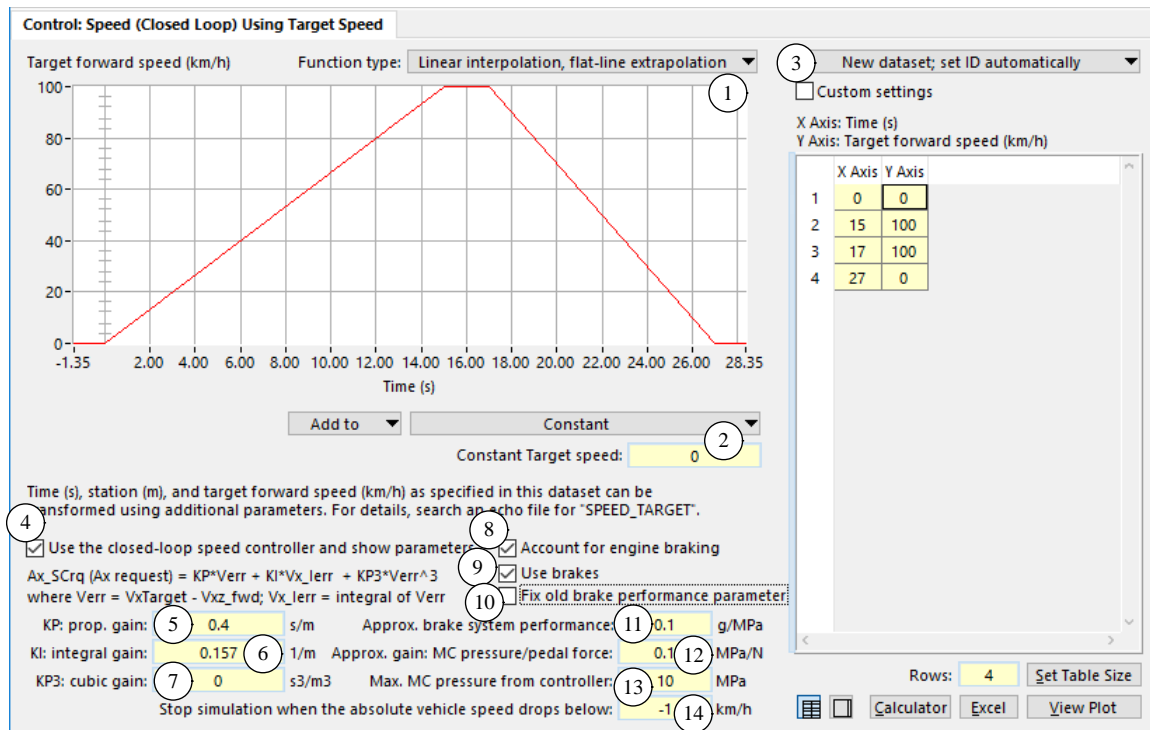
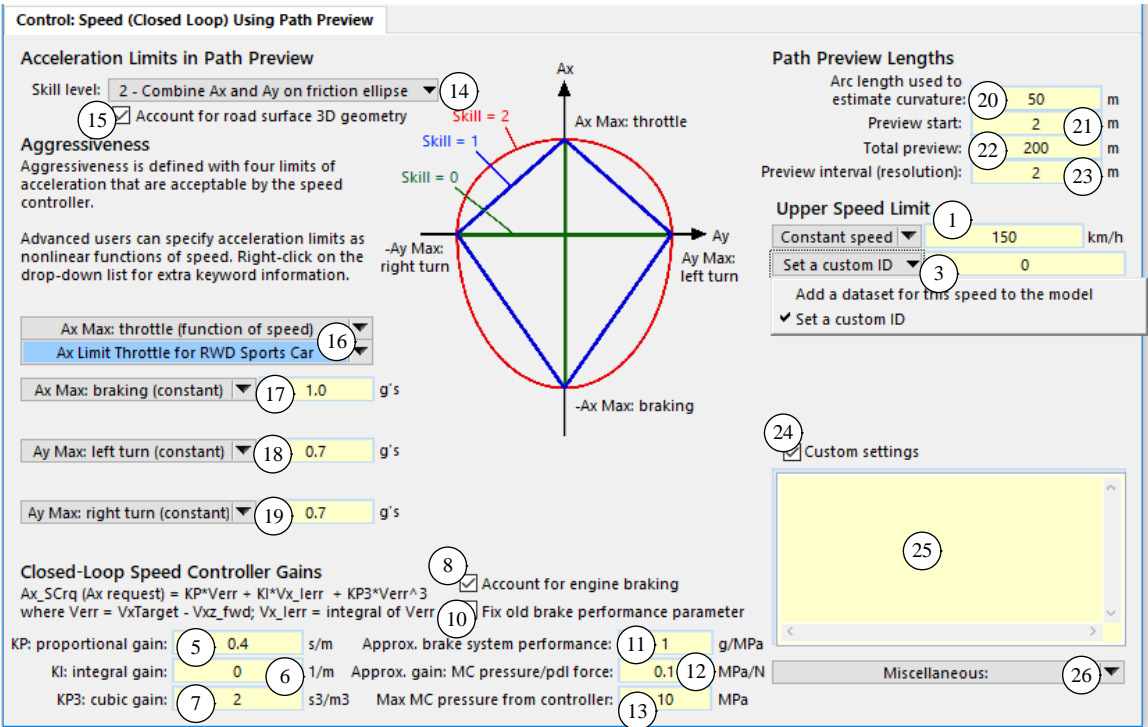
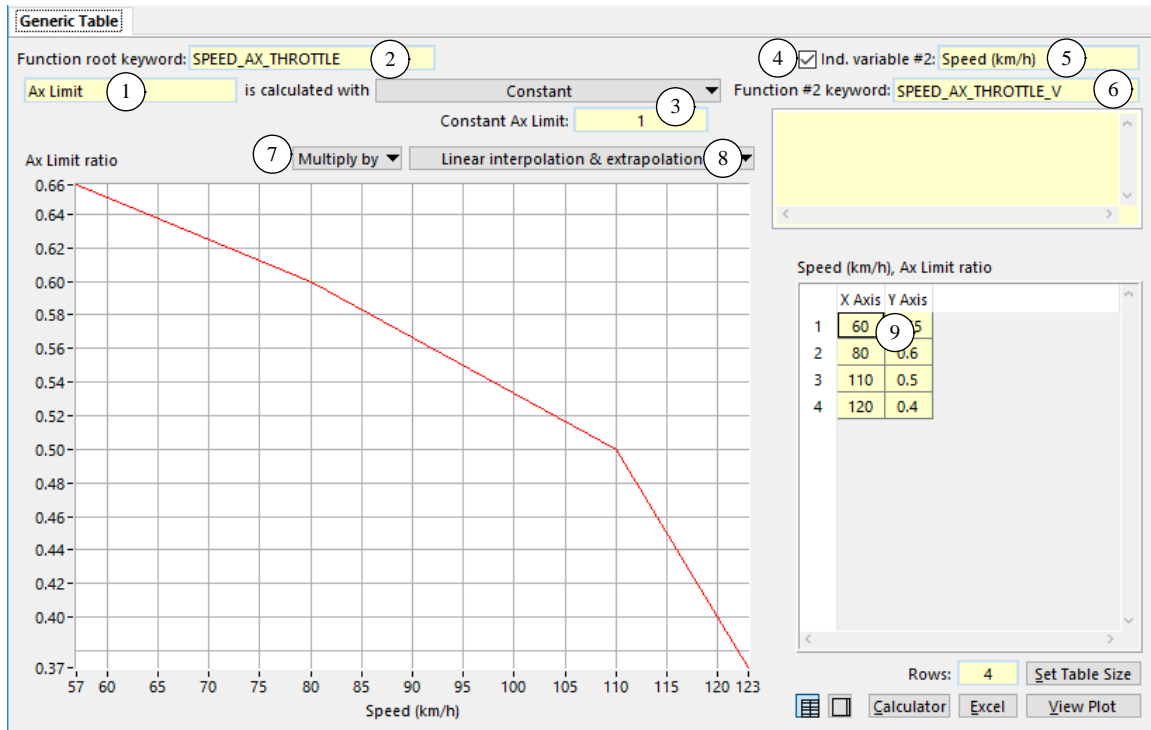

Figure 36. Speed target and closed-loop speed controller parameters.
Figure 37. Speed Control Using Path Preview.
Figure 40. Defining an acceleration limit as a function of speed and station.
Figure 36 shows the screen used to specify a target speed as a function of time and/or station. The top part of the screen shows a dataset for the SPEED\_TARGET Configurable Function. The bottom part shows properties of the closed-loop speed controller used for the vehicle.
The speed controller can limit target speed based on of curvature in the reference target path, combined with driver aggressiveness, skill parameters, and possibly 3D surface properties. This is done with the **Control: Speed (Closed Loop) Using Path Preview** screen (Figure 37).
The user controls on the bottom of this screen are the same as those shown on the other screen and described in the previous subsection (items (5) - (13)) in both Figure 36 and Figure 37).
Brake control is fundamental for the path preview mode and cannot be disabled; hence, the checkbox for disabling the brakes ((9) in Figure 36) does not exist on this screen.
The option to stop the run when a minimal speed is reached is also not included when operating with the path preview option; therefore, the minimal speed field is not included ((14) in Figure 36).
- (1) The maximum target speed for SC is determined using the `SPEED_TARGET` Configurable Function. A dataset can be created here using a constant, or a link can be made to a dataset from the library screen described in the preceding section. Use the drop-down control to choose between these options.
If a constant is chosen, a yellow field is used to specify the value as shown in Figure 37. An ID is also needed to identify which `SPEED_TARGET` dataset will be used. Two options are available using the drop-down control (3).
If a function is chosen, a link is available to select a dataset from the library **Speed (Closed Loop) Using Target Speed** (Figure 36, page 44). The intent is that the linked dataset will define an upper limit target as a function of station. Internally, the speed controller uses the current path station  $S$  and  $T=0$  when using the `SPEED_TARGET` Configurable Function. The closed-loop controller gains ((5) - (13)) are read from the linked `SPEED_TARGET` dataset but will be overridden with the values read from this screen.
If the constant is chosen, a yellow field appears (e.g., ⑮). If the function is chosen, a data link appears (e.g., ⑮) to the **Generic Table** library. An example function dataset is described later (Figure 40, page 52).
If one or more of the acceleration limits (①⑥ - ①⑨) are specified as functions of speed, then links are made to the **Generic Table** library. This screen (Figure 40) can be used to represent almost any Configurable Function used within a VS Math Model. In the figure, it is used to represent the throttle acceleration limit in SC.
1.  $f$  is a function that uses a method you define on the screen (e.g., 2D linear interpolation is specified in Figure 40).
Data from the Generic Table screen (Figure 40) can be treated as a shaping function and transformed, typically by setting the scaling parameters in the Misc. yellow field on the **Control: Speed (Closed Loop) Using Path Preview** screen ((25), Figure 37, page 47). For example, set  $VX\_SCALE\_SPEED\_AX\_THROTTLE = 1.2$  to multiply the range of speeds covered in the table by 1.2, to apply an existing acceleration limit for a vehicle with a higher performance engine.
In this example, the maximum speed is set to 150 km/h, and aggressive acceleration limits were set: 0.7g lateral, 1.0g braking, and speed dependent for accelerating (based on engine capability, using the example shown in Figure 40, page 52). Road geometry is also considered.